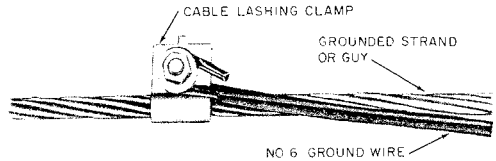

Fig. 2—Connecting to a Guy or Strand With Cable Lashing Clamp
1.10 The connection to a guy or strand (except 25M) is made with a cable lashing clamp or strand ground clamp. For 25M, use only the strand ground clamp. See Fig. 2 and 3.